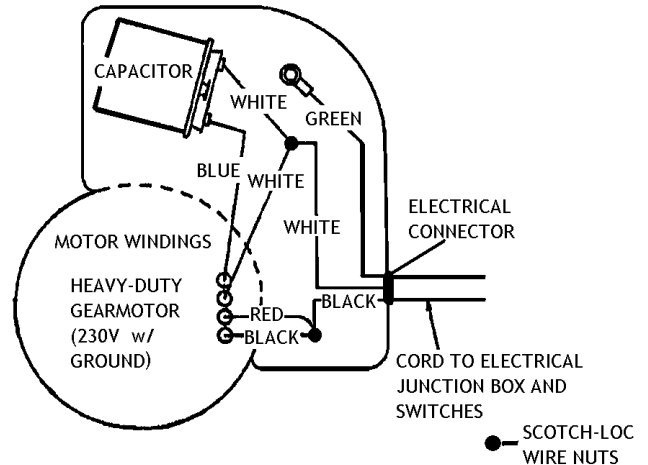

Figure 27 - Gearmotor Junction Box Wiring Diagram
- 59 Insert 3/8" electrical connector from hardware sack into hole on side of gearmotor junction box. **Figure 27.**
- 62 Connect loose, short white wire with female spade (located in plastic sack on junction box wire) to terminal of capacitor that is included inside gearmotor junction box. **Figure 27.**
- 63 Connect blue wire with female spade from gearmotor to terminal on opposite side of capacitor. **Figure 27.**
- White wire from step 62. **Figure 27.**
- Red wire from gearmotor. **Figure 27.**